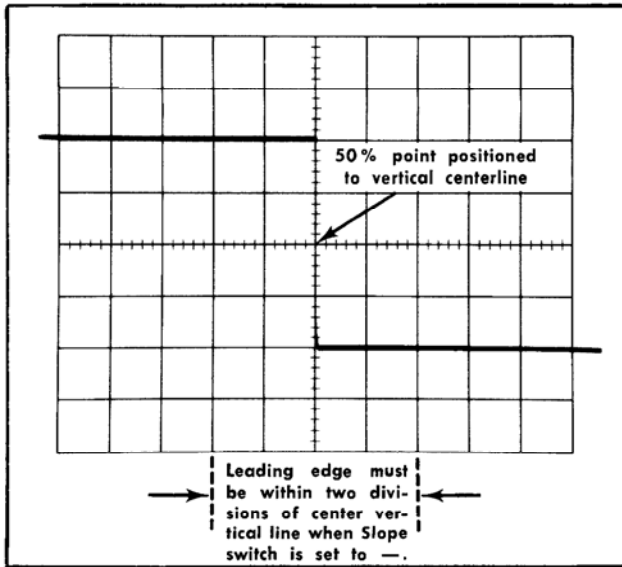

Fig. 5-18. Typical CRT display when checking calibrator duty cycle.
- CHECK**—50% point on the rising edge is now displayed not more than two divisions from the center vertical line (indicates a duty factor of 48% to 52%; see Fig. 5-18).